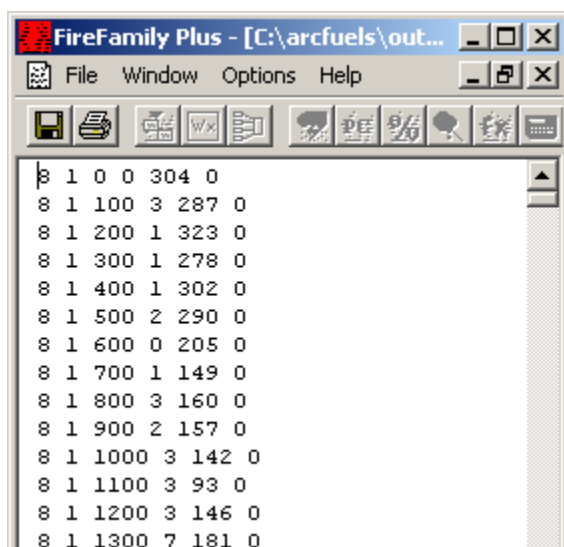

Figure 3-35—The WND file created in FFP for use with FARSITE and FlamMap.
- 3) Look at the WND file (fig. 3-35). This file contains wind speed and direction and cloud cover percent for every hour in the month of August. Specifically the headers are: